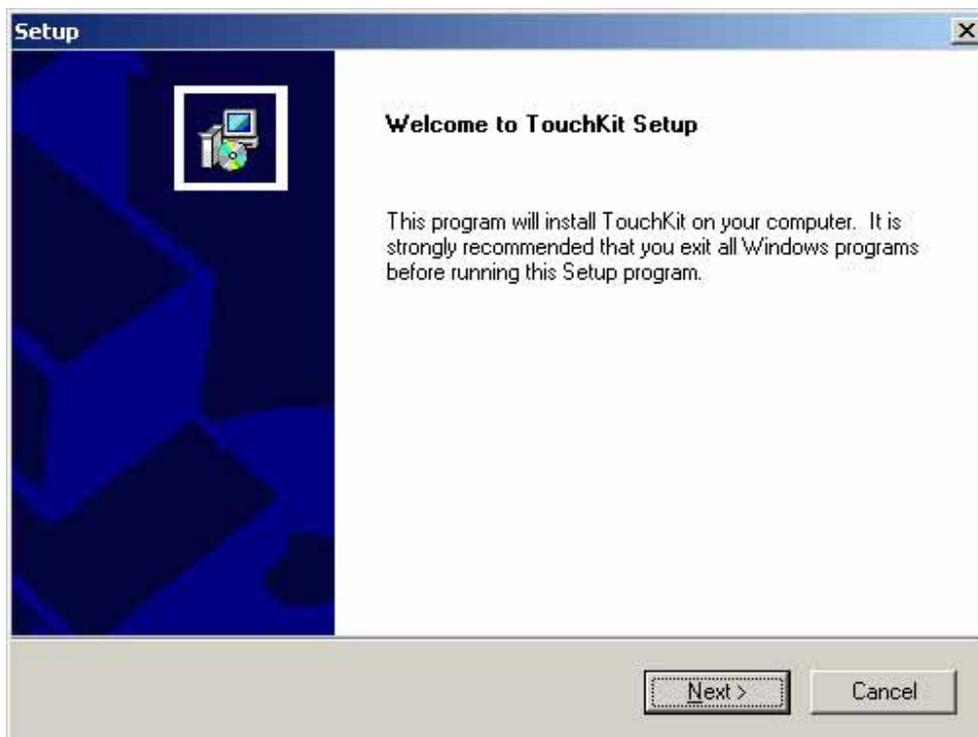

Figure C-3: Welcome Screen
Step 7: After the Install Shield Wizard is ready, a welcome screen appears (**Figure C-3**).